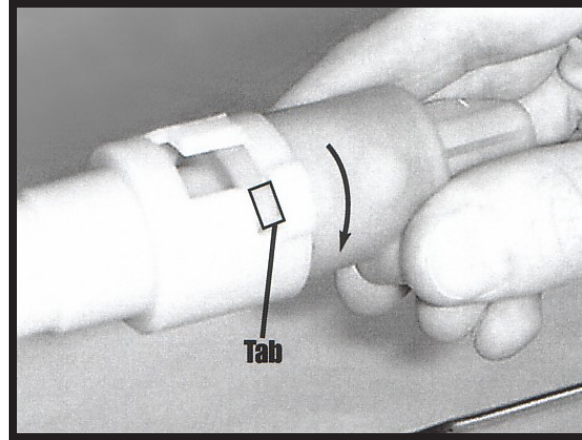

FIGURE 10-5
8. ONCE THE AIR SPRING IS FULLY DEFLATED, ROTATE COUNTERCLOCKWISE TO THE SECOND STOP. (FIGURE 10-5)